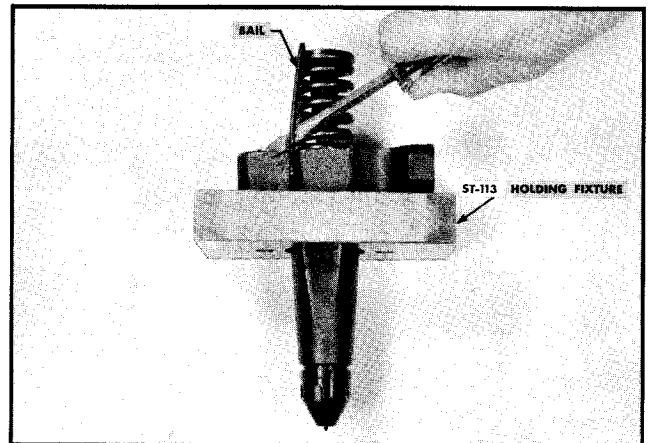

Fig. 6-4. Removing retaining bail
2. Remove bail or screw, if used, from injector body. See Fig. 6-4.